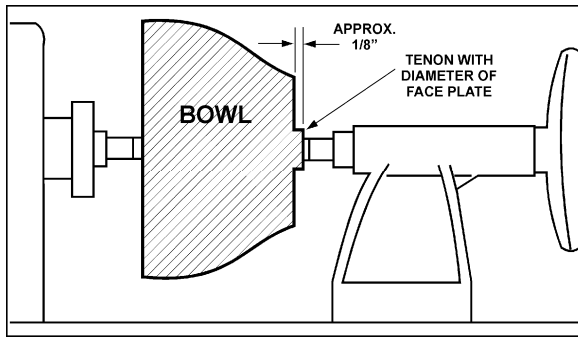

Figure 9-10
8. Turn a short tenon (about 1/8" long) the size of the hole in the faceplate. See Figure 9-10. This will allow centering the workpiece when the faceplate is attached.